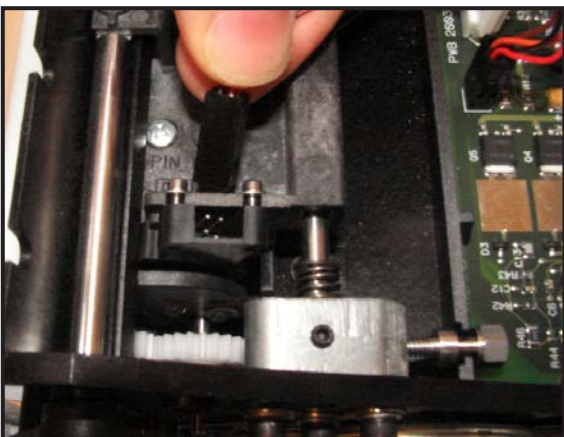

Figure 6-53
- a. Disconnect the paper-low sensor cable from its connector on the recorder board (See Figure 6-53). Make a note of the orientation of the connector for proper re-installation.